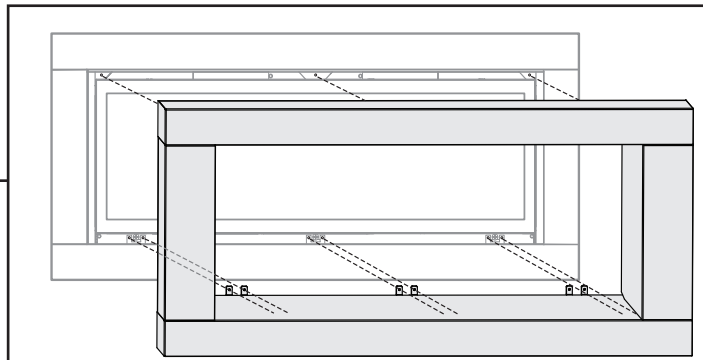

Figure 34-3: Installing Optional Surround
*For painted wall finish, use two (2) coats of quality primer and high-temperature paint on provided Fiber Board.
- SURROUND:** Attach the Surround, and secure using the nine (9) screws provided with the Surround Kit (see **Figure 34-3**).